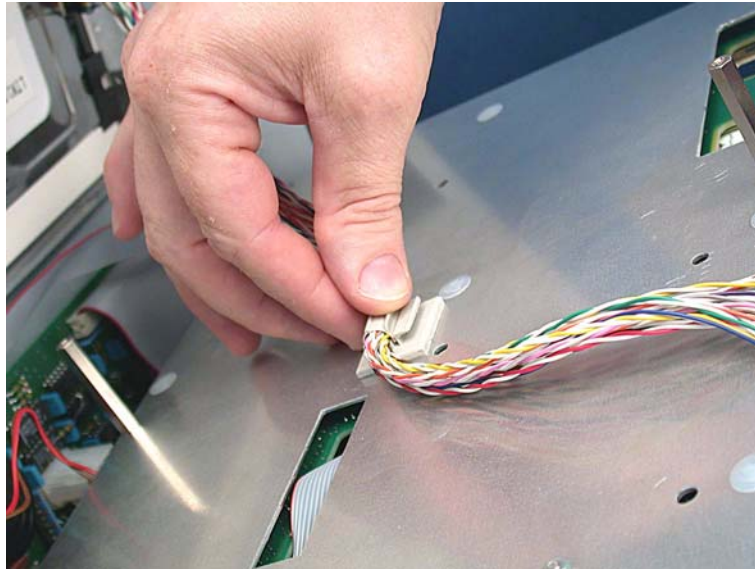

Figure 11-146. Pushing the GMP to LCD cable into its grip
- The cable from the GMP to the LCD display must be in the cable grip on the control board mounting plate. (Figure 11-146.)